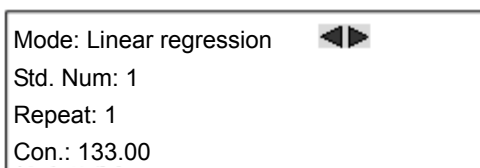

Fig. 2-9 Interface of standard parameter setting
15) Standard: Used to set the standard making parameters. Move the cursor to the "Standard", press the  key according to the indication to access the interface for Standard Setting as shown in Fig. 2-9.